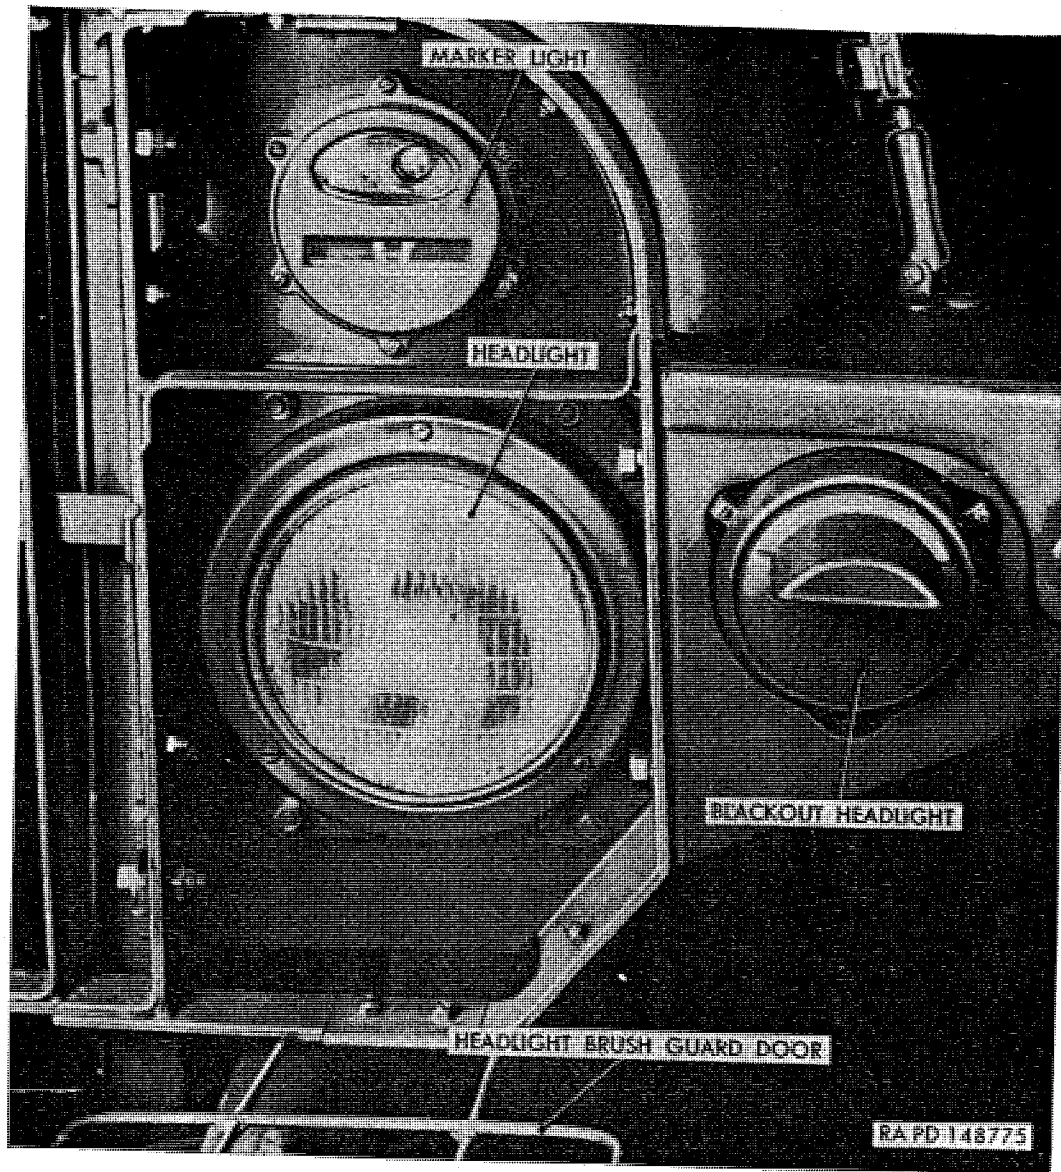

Figure 163. Front lights installed (left side shown).
- (c) Position headlight (fig. 163) and mounting plate assembly on studs in radiator side baffle and secure with four $\frac{3}{8}$ -24 nuts and $\frac{3}{8}$ -inch lockwashers.